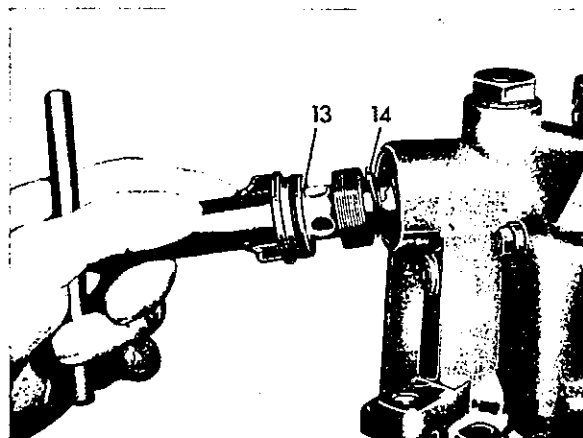

Fig. 40
21 Screw down attachment screws of rear transmission case and tighten to specified torque. Screw in plug for secondary pump (13) and pressure spring (14) **Fig. 40**